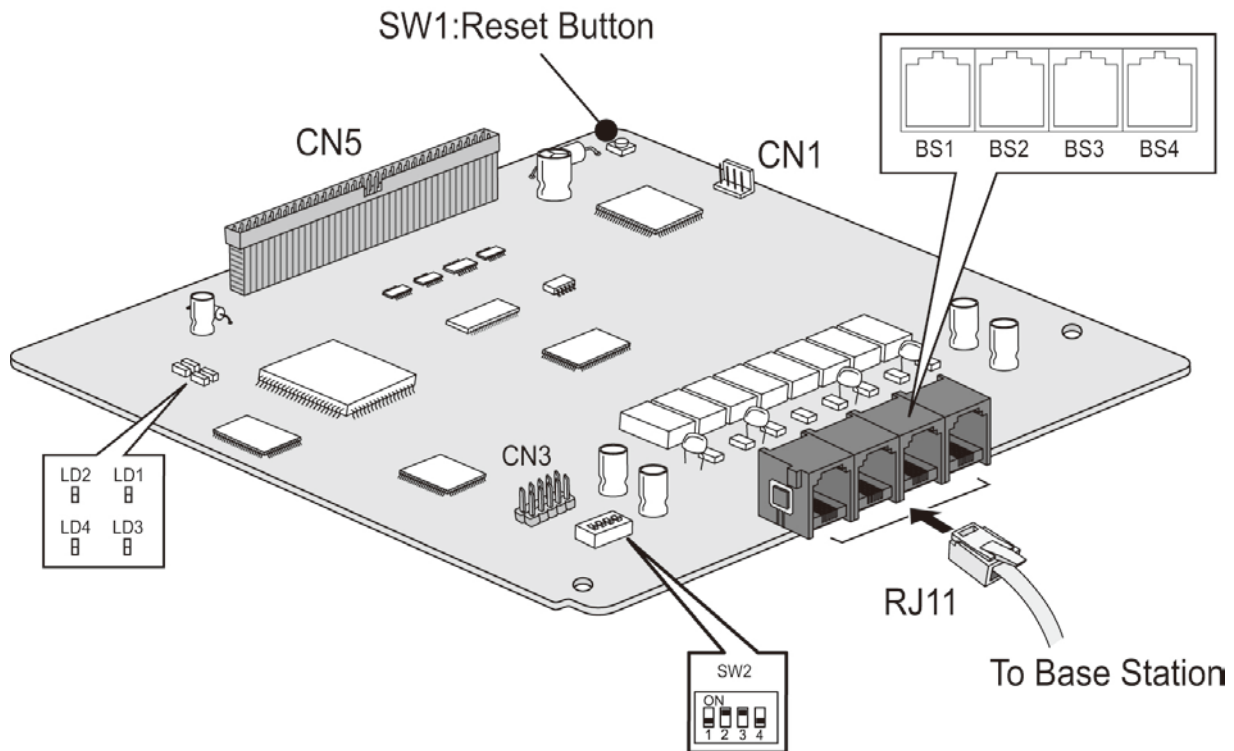

Figure 4.7.10-1 WTIB4
The WTIB4, shown in Figure 4.7.10-1, has four (4) interfaces to GDC 600BE multi-channel DECT Base Stations. Only one WTIB4 may be installed in the KSU of an eMG80 system. As access to the WTIB4 board may be required during installation of the Base Stations, we recommend installing the WTIB4 as the second Interface board on the KSU CN1 connector. The board is provided with two Standoffs that must be installed prior to mounting the board. To install the board in the KSU, refer to Section 4.4.